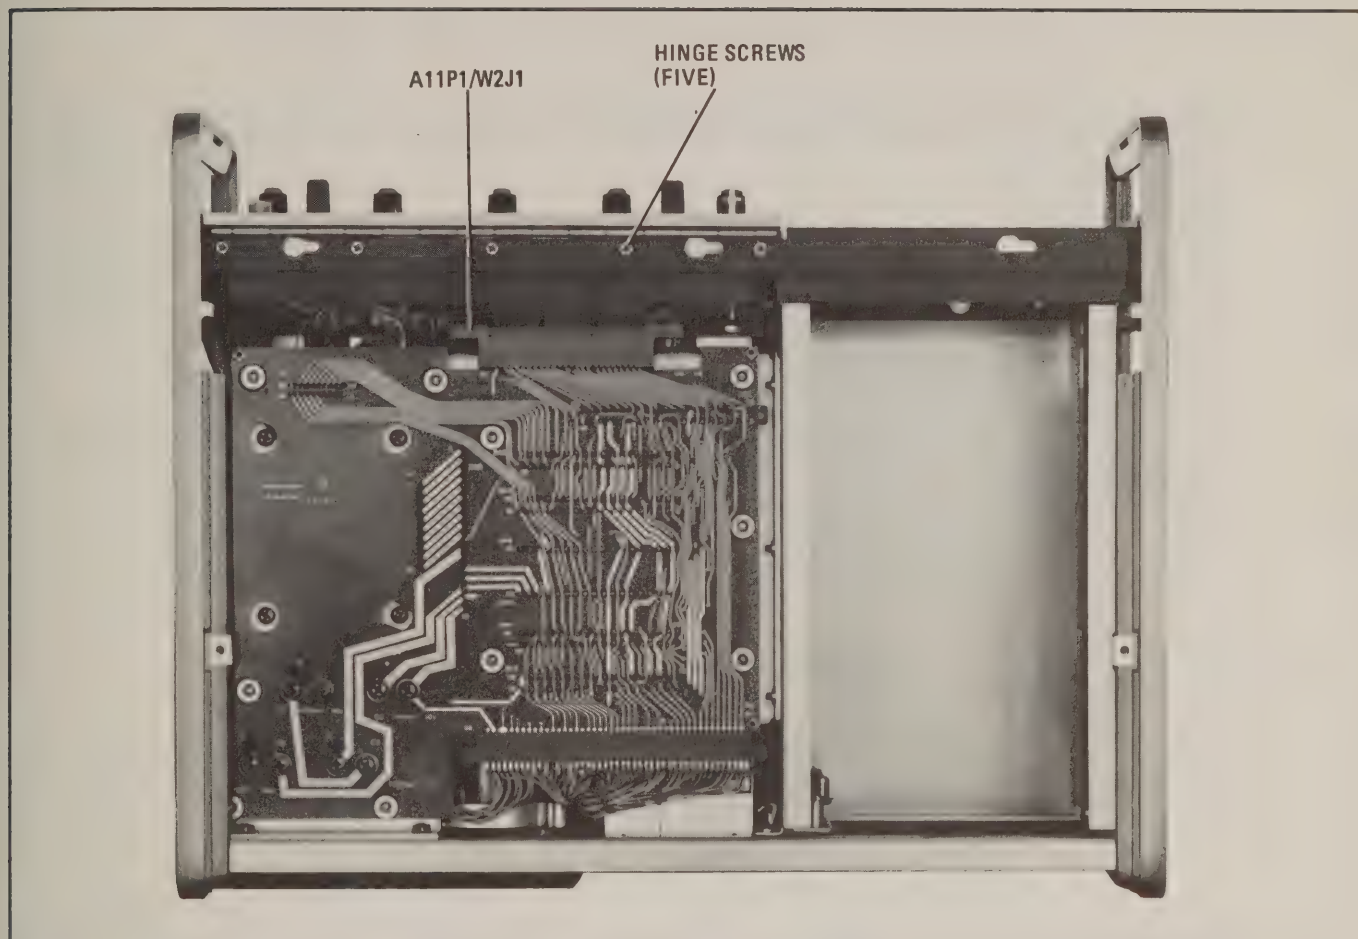

Figure 8-1. Removing Hinged Front Panel Assembly From Mainframe
- Remove bottom cover, plastic filler strip, and five screws used to secure hinged front panel to mainframe (Figure 8-1).